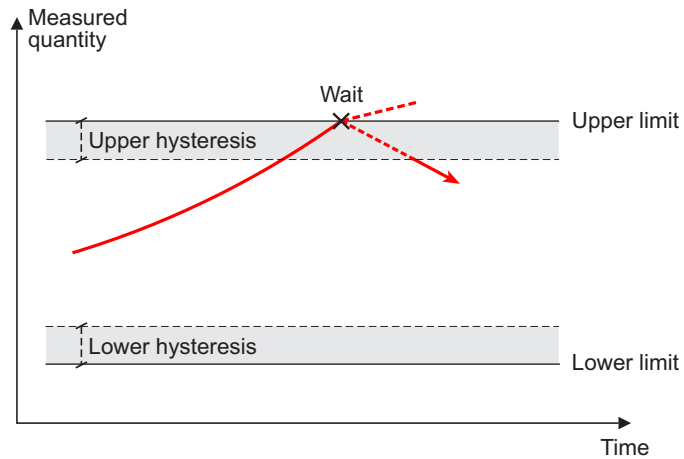

Fig. 4.13: Action "Wait"
- **Lower hysteresis:** The lower hysteresis represents a tolerance range for the lower limit (see *Fig. 4.13*). With the **action "Wait"** dosing does not continue until the monitored quantity has exceeded the lower limit plus this value. Only positive values are allowed.
- **Upper hysteresis:** The upper hysteresis represents a tolerance range for the upper limit (see *Fig. 4.13*). With the **action "Wait"** dosing does not continue until the monitored quantity has fallen below the upper limit minus this value. Only positive values are allowed.